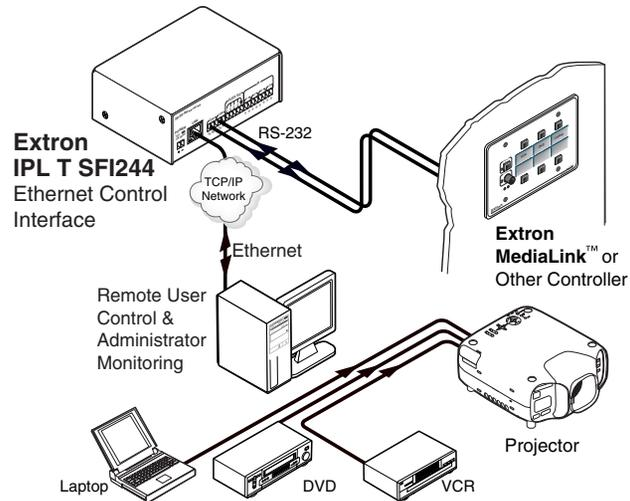

Figure 4-34 — Pass-through mode
Using the port redirector, either serial port can be configured as a pass-through connection, allowing data to be sent and received directly to and from the serial port back to the client (PC) without any processing. In figure 4-34, a MediaLink controller connected to serial port 1 (COM1) is controlling a projector and input devices connected to serial port 2 (COM2).